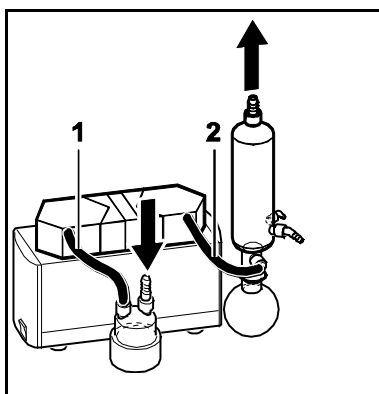

Fig. 15: Tubing system SH
2	Tubes (see fig. 15) <ul style="list-style-type: none"> ▪ Resistant to the medium employed ▪ Inside diameter 10 mm ▪ Length: (1) approx. 150 mm, (2) approx. 220 mm
4. Lay hoses for system (see fig. 15).